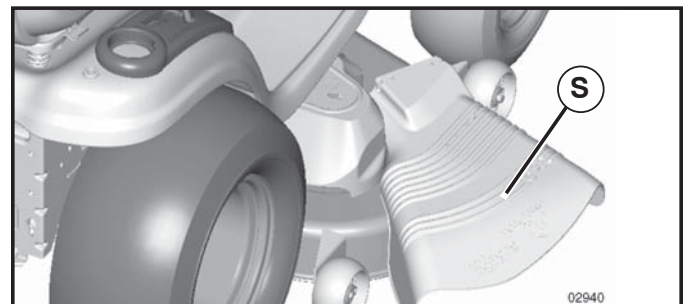

FIG. 11
CAUTION: Do not operate the mower without either the entire grass catcher, on mowers so equipped, or the deflector shield (S) in place. See Fig. 11.